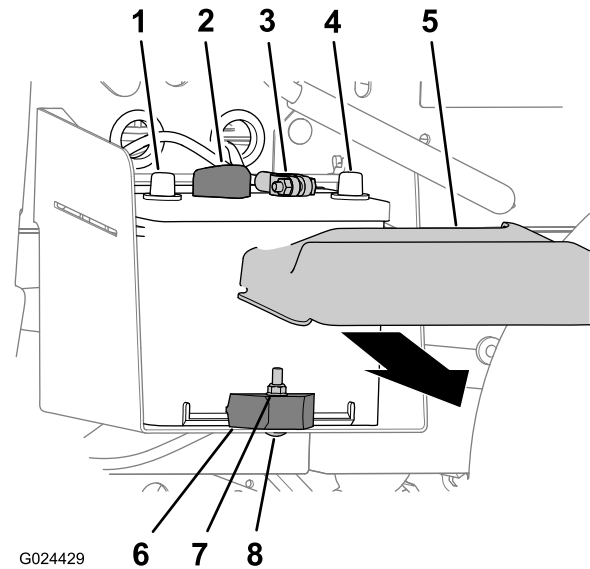

Figure 40
1. Squeeze the sides of the battery cover and remove the cover from the top of the battery (Figure 40).
2. Disconnect the negative battery cable from the terminal of the battery (Figure 40).
3. Disconnect the positive battery cable from the terminal of the battery (Figure 40).
2. Remove the locknut, carriage bolt, and battery clamp that secures the battery to the battery tray (Figure 40).
3. Remove the battery from the battery tray (Figure 40).
1. Align the battery to the battery tray of the machine (Figure 40).
Note: Ensure that the positive and negative posts of the battery are aligned as shown in Figure 40.
2. Secure the battery to the battery tray with the battery clamp, carriage bolt, and locknut (Figure 40).
1. Connect the positive battery cable to the terminal of the battery (Figure 40).
2. Connect the negative battery cable to the terminal of the battery (Figure 40).
3. Install the battery cover onto the top of the battery (Figure 40).